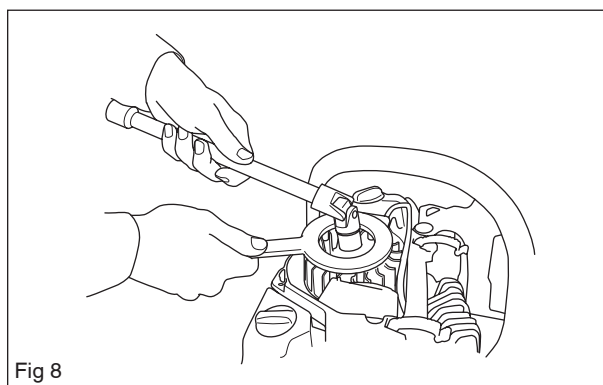

Fig 8
3. Use the tool to hold the flywheel in place while the flywheel nut is loosened using a suitable socket wrench. See figure 8.